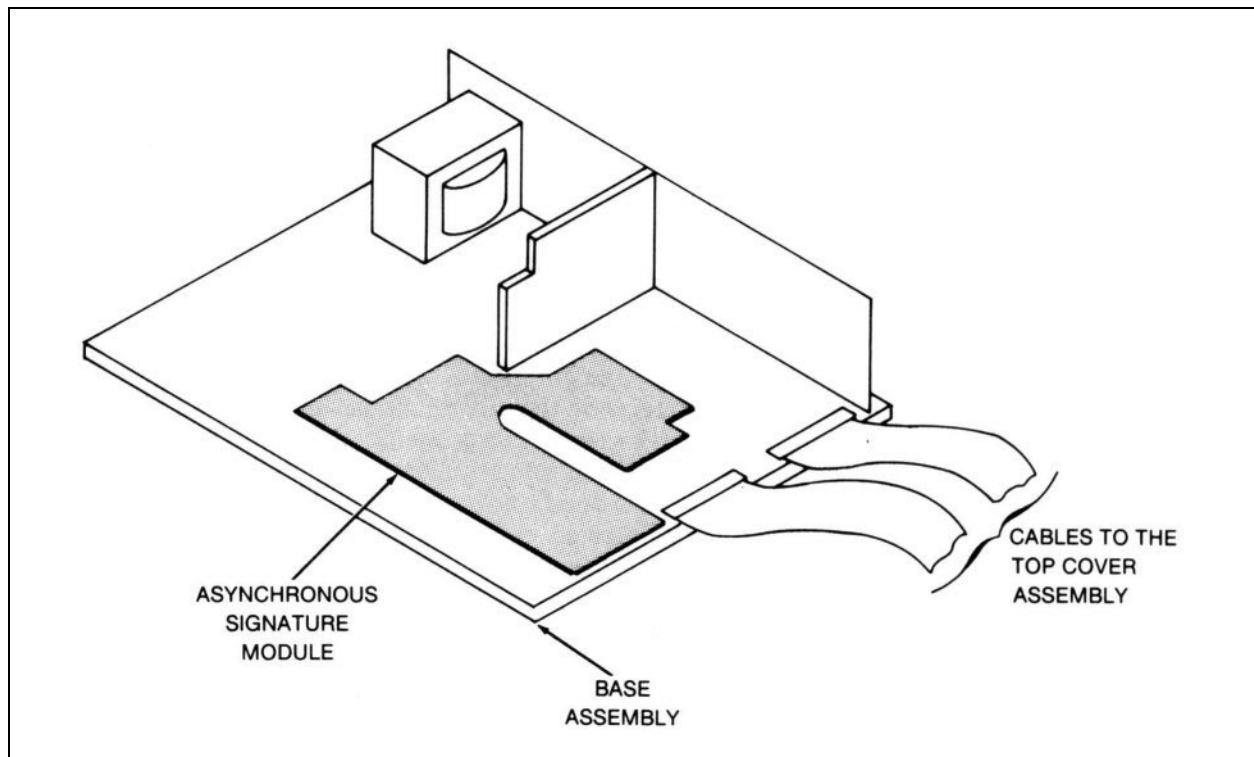

FIGURE 3-1. Location of Asynchronous Signature Module
2. Carefully return the instrument to the upright position while holding the top cover in place. Once the instrument is in the upright position, remove the top cover and lay it to the right side of the instrument, exposing the Signature Module as shown in Figure 3-1.